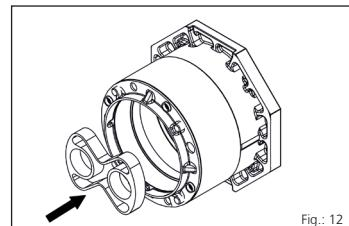

Fig.: 12
- 4** Press together spacer clamp and push into the back of the internal sealing element as far as it will go (see Fig. 12).